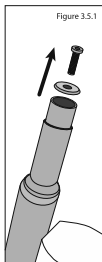

Figure 3.5.1
5. Step 5: Remove the protection cap of stem, assemble the front bar, then protection cap of stem tighten the screws to fix (**As: Figure 3.5.1 & 3.5.2**).